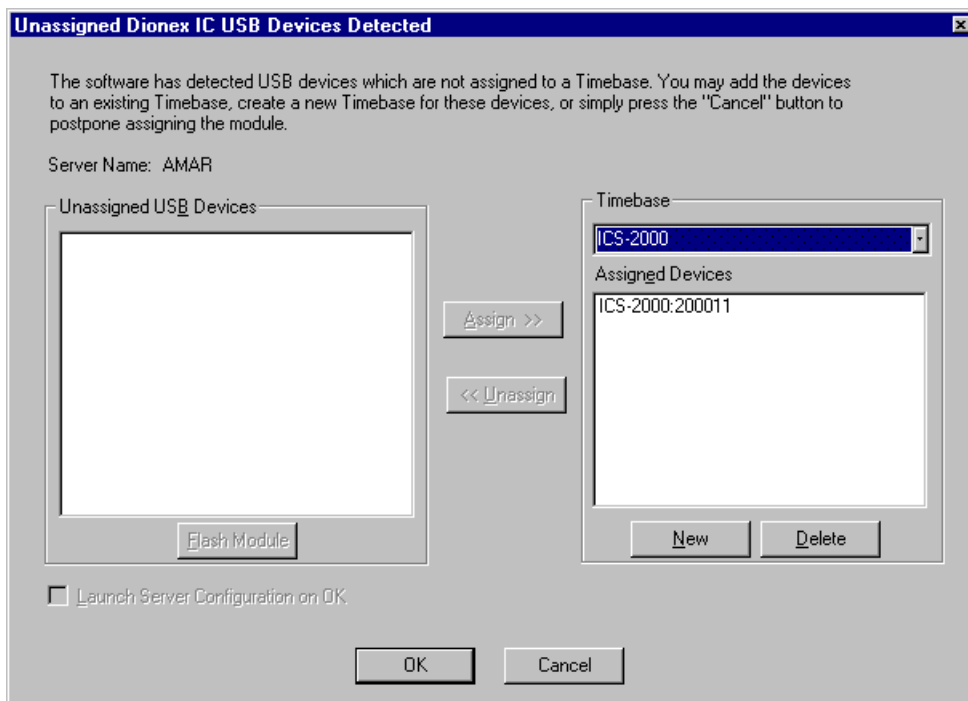

Figure 11. ICS-2000 Assigned to a Timebase
7. In the Unassigned USB Devices box, select the ICS-2000 and then click the **Assign** button. The ICS-2000 is now assigned to the timebase (see Figure 11). If you are installing more than one ICS-2000, you can verify the serial numbers for each by checking the label on the component panel. The serial number is also shown on the **INFORMATION** touch screen page.